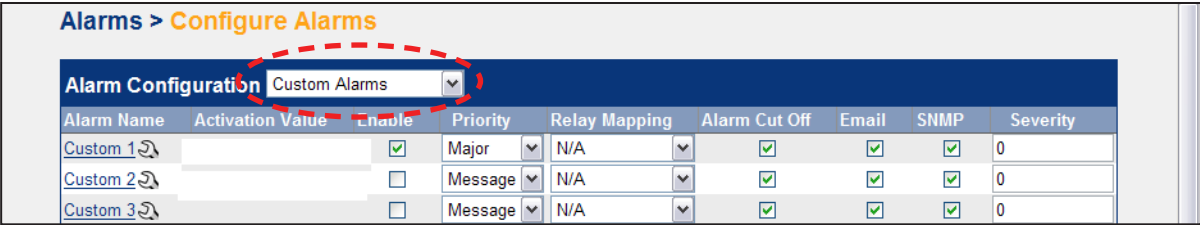

Figure 52 — Configuring a custom alarm
1. Select the menu item **Alarms > Configure Alarms** (Figure 52).